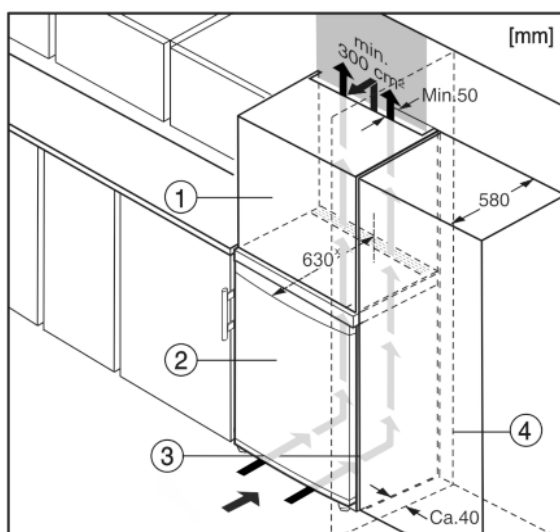

Fig. 5
The appliance can be built into kitchen units. A top cupboard Fig. 5 (2) can be added above the appliance in order to bring the appliance Fig. 5 (1) up to the height of the fitted kitchen units.
If you are integrating the appliance into a kitchen unit (max. depth 580 mm) you can install it right next to the kitchen cabinet Fig. 5 (3). The appliance measures 34 mm x at the side and 50 mm x at the centre in relation to the front of the kitchen cabinet.
If you are installing the appliance with the hinges next to a wall Fig. 5 (4), the distance between the appliance and the wall must be at least 40 mm. This is how far the handle protrudes when the door is open.